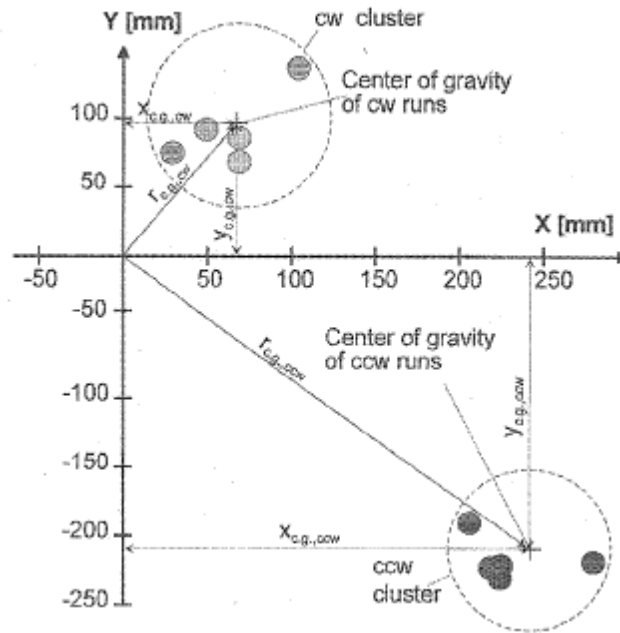

Figure 3: Odometry error on an uncalibrated vehicle
7. If this data is plotted on an x-y scatter plot, there will be two distinct quadrants, one for the cw runs and one for the ccw runs (see Figure 3).
8. You should include the table of data for the 10 square traversals (cw, ccw) and the graph similar to Figure 3 for your data in the lab memo submission.
3. The center of gravity for each run is also shown in Figure 3. The distribution of the readings within each quadrant is a result of nonsystematic errors. The asymmetry in the centers of gravity between the cw and ccw runs is due to two types of systematic errors. Type A errors are due to an increase or decrease in robot rotation for both cw and ccw runs. Type B errors are due to an increase or decrease in robot rotation for the cw run and the opposite effect happens for the ccw run. Type A errors occur because of uncertainty in the wheelbase measurement while Type B errors because of unequal wheel diameters. A single numeric value that expresses the odometric accuracy for systematic errors can be found from
- The radius, r , for each center of gravity is also shown on the Figure 3. Find the radii for your data.